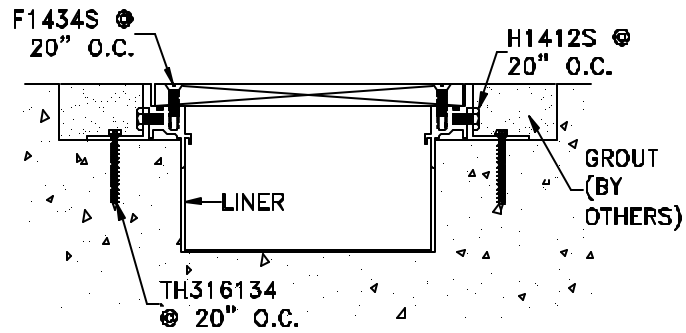

Figure 12
- STEP 22.** Grout the system into place. Follow the grout manufacturer's instructions for mixing and installation of the grout (see Figure 12).